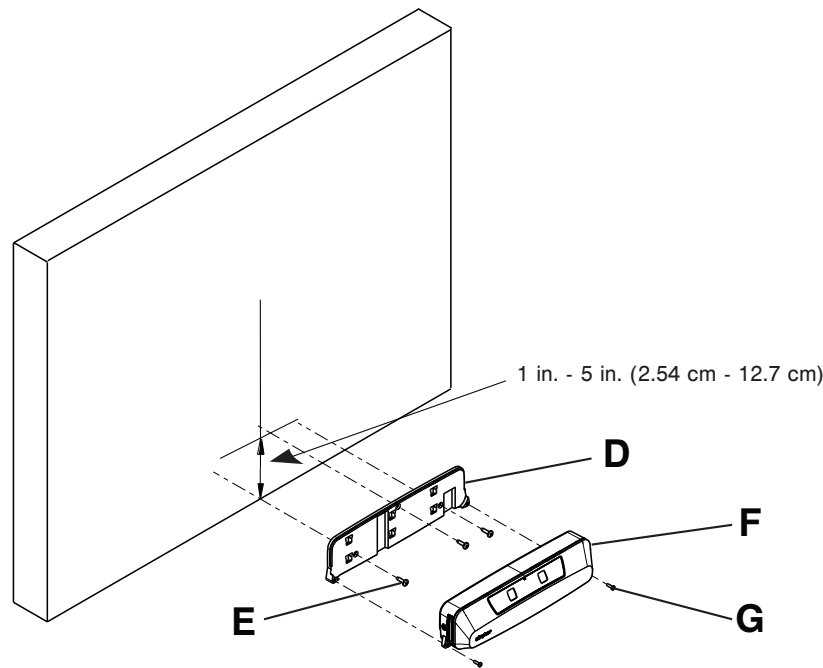

Figure 3 – Mounting specifications
5. Using a tape measure and pencil, mark the intended center of the bed location (vertical line) (Figure 3).
6. Center the mounting plate on the vertical line made in step 5 and mount the bottom of the mounting plate max 1 in. (2.54 cm) off the floor (Figure 3).
7. Using a level on the bottom of the mounting plate (D), make sure that the bottom of the mounting plate (D) is level when you position the mounting plate (D) on the reference marks made in steps 5 and 6 (Figure 3).
8. Use a pencil to mark the three screw holes of the mounting plate (D).
9. Using the appropriate tool with the hospital supplied fasteners (E, not included), secure the mounting plate (D) to the wall (Figure 3).
10. Attach the **Secure Connect** (F) to the mounting plate (D) (Figure 3).
11. Using a #2 Phillips screwdriver, secure the **Secure Connect** (F) to the mounting plate (D) with the two supplied screws (700001126359) (G) (Figure 3).